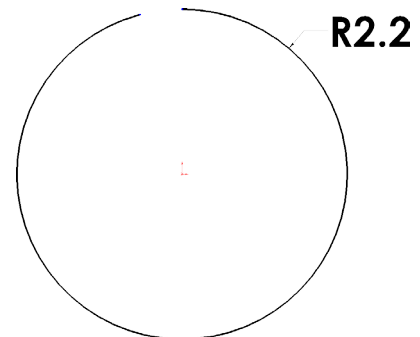

Fig. 3
Step 5. Click **Smart Dimension**  (S) on the Sketch toolbar.
Step 6. Dimension radius of the arc **2.2** as shown in **Fig. 3**.
Step 7. Click Zoom to Fit  (F) on the View toolbar.